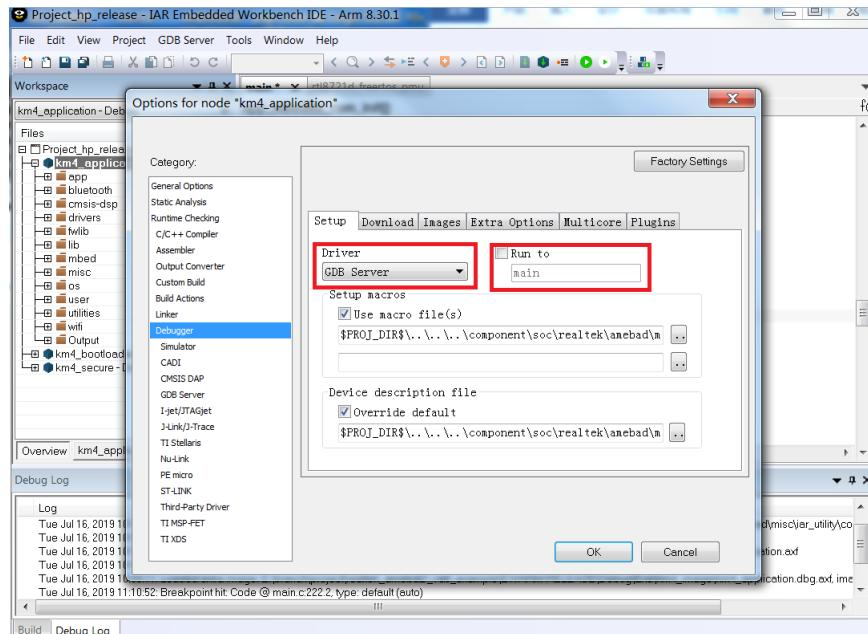

Fig 6-15 RLX Probe setup
(3) If using RLX Probe, check whether the RLX Probe setting is correct.
- Click Project > Options > Debugger > Setup > Driver, choose "GDB Server" and don not choose "Run to", as Fig 6-15 shows.